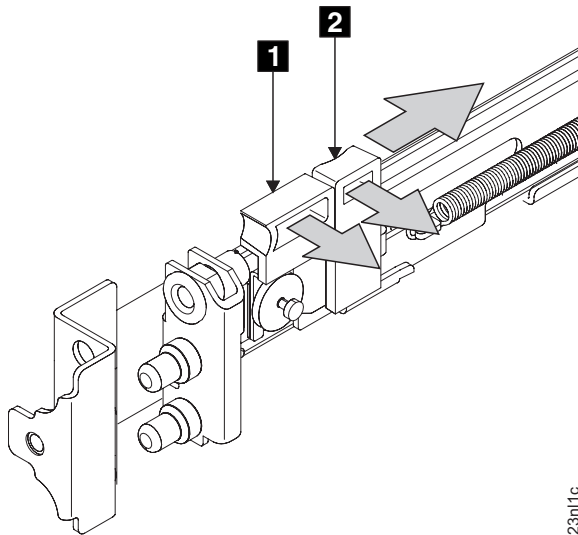

Figure 92. Opening the front latch-lock carrier assembly
3. Gently push the latch lock **2** away from the rail as you move the latch lever **1** toward the far end of the rail (Figure 92). The latch-lock carrier assembly slides against the spring tension.